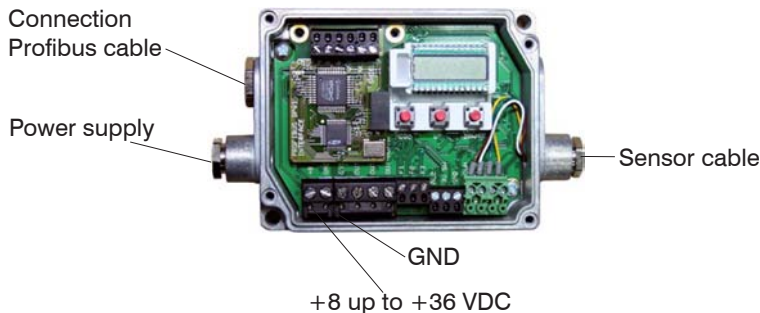

Fig. 40 Commissioning Profibus
- Open the controller and connect the power supply, see Fig. 40.